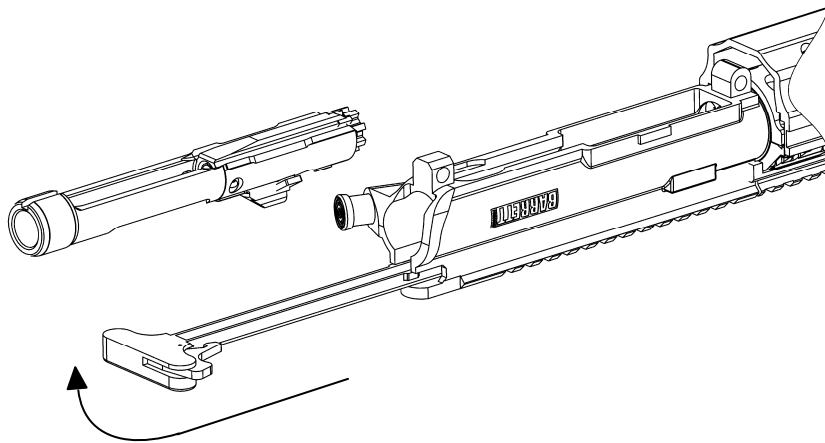

Figure 19.
2. Next, lift the charging handle out of its track and remove it. (Figure 19).